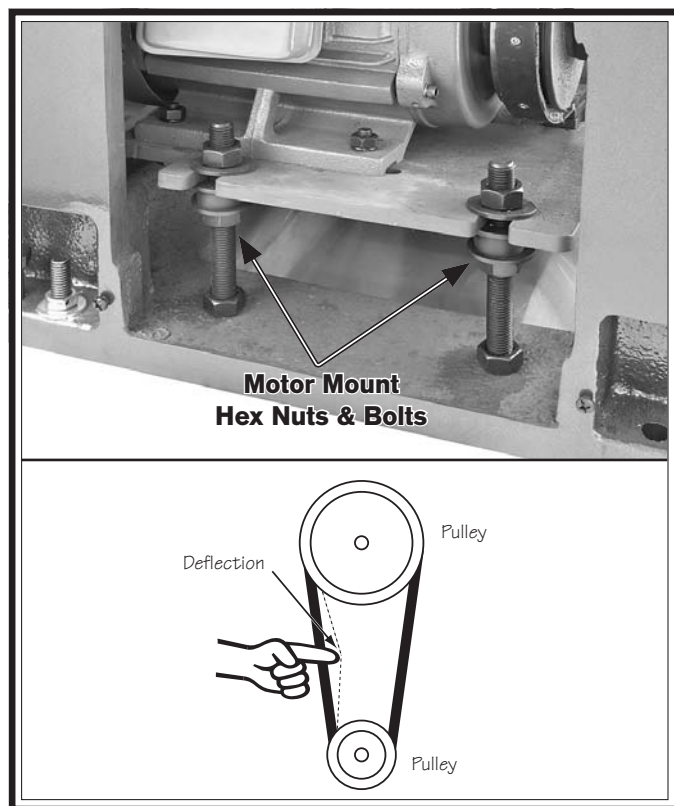

Figure 124. Adjusting V-belt tension.
3. Adjust the hex nuts on the motor mount bolts shown in **Figure 124**, until there is approximately $\frac{3}{4}$ " deflection of the V-belts when moderate pressure is applied midway between the pulleys.